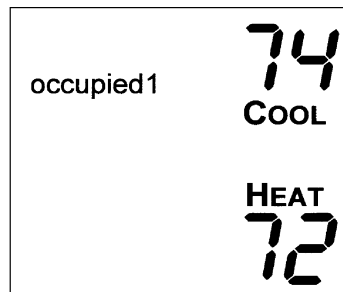

Fig. 9 — Setting Occupied 1 Set Points
1. Enter Programming mode by pressing and holding the Mode and UP ARROW buttons. The Occupied 1 annunciator will appear on the thermostat display. Use the UP ARROW and DOWN ARROW buttons to set the maximum number of Occupied periods for each day. The thermostat can be set to 1, 2, or 3. After the number of Occupied periods has been selected, press the Mode button. See Fig. 9.
2. The cooling set point for Occupied 1 will be displayed. Use the UP ARROW and DOWN ARROW buttons to raise or lower the cooling set point until the desired temperature is shown. The range of acceptable values is 35 to 99 F (1 to 37 C). Press the Mode button to continue. See Fig. 9.
3. The heating set point for Occupied 1 will be displayed. Use the UP ARROW and DOWN ARROW buttons to raise or lower the heating set point until the desired temperature is shown. The range of acceptable values is 35 to 99 F (1 to 37 C). Press the Mode button to continue. See Fig. 9.